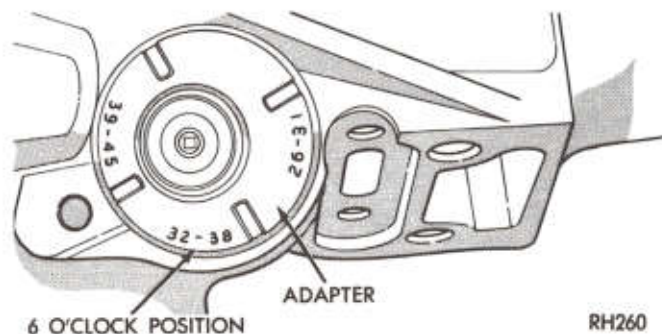

Fig. 1—Speedometer Pinion and Adapter
- (1) Place drain pan under speedometer adapter.
- (2) Remove bolt and retainer securing speedometer pinion adapter in the extension housing (Fig. 1).
- (5) Note number of gear teeth and install speedometer pinion gear into adapter.
- (6) Rotate the speedometer pinion gear and adapter assembly so that the number on the adapter, corresponding to the number of teeth on the gear, is in the 6 o'clock position as the assembly is installed (Fig. 1).
- (7) Install retainer and bolt, with retainer tangs in